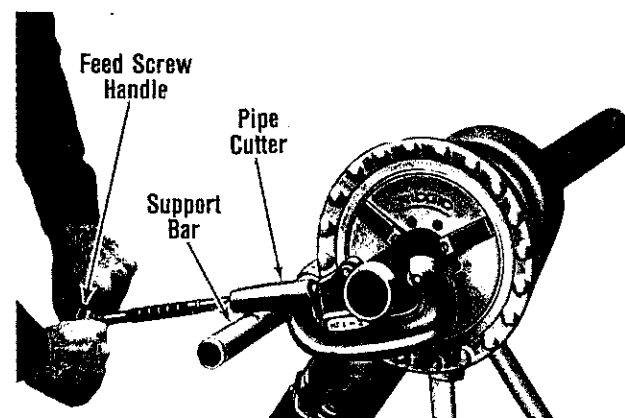

Figure 8. Cutting Pipe with Cutter.
3. Rest Pipe Cutter Frame on Support Bar (Fig. 8) located on switch side of machine. Tighten Feed Screw Handle.
6. Continuously tighten Feed Screw Handle (Fig. 8) with both hands until pipe cutoff is completed.